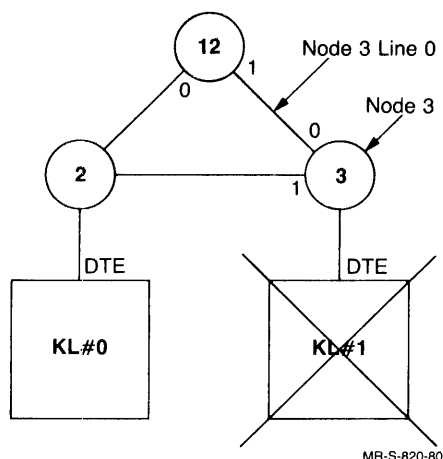

Figure 5-3: Dual-Processor Nodes
To do this, place an entry in NETLDR.INI for each front end of your multiple-CPU system. In the entry, specify the front end nodes using the NODE and LINE switches. With the NODE switch, give the name of the adjacent node that is to load your front end; with the LINE switch, give the number of the line on the adjacent node that is connected to line 0 on your front end. For example, given the configuration in Figure 5-3, with KL#1 down, you can load node 3 (the communications front end of KL#1) from the adjacent node (12) attached to line 0 of node 3.
This argument block is defined in the GO.ROM routine of the DNCOMM.P11 communications module. For example, assume you are standing at node 3 in Figure 5-3. Node 3 has serial number 70, and you wish to start it from KL#0 (node number 20). Node 3 is connected over line 1 to an adjacent node attached to KL#0.